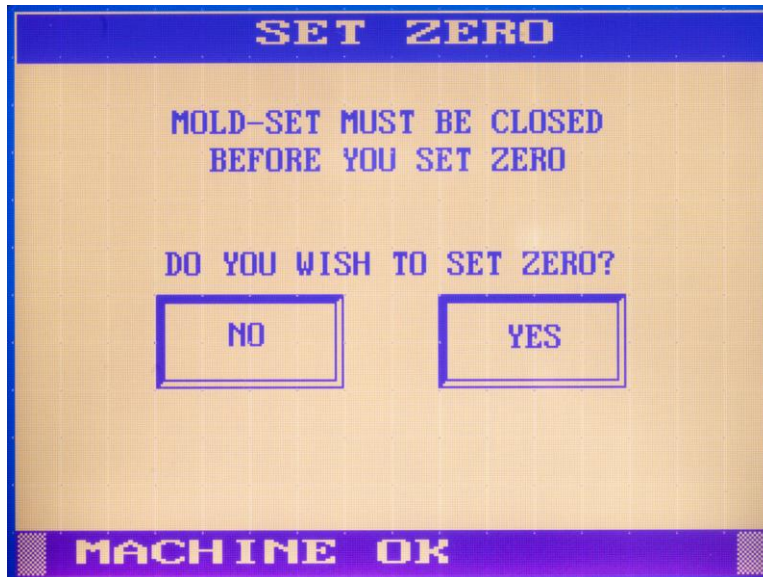

Fig. 4-10
- SET CLAMP ZERO.....Advances to the “Set Clamp Zero” screen shown in fig. 4-10.